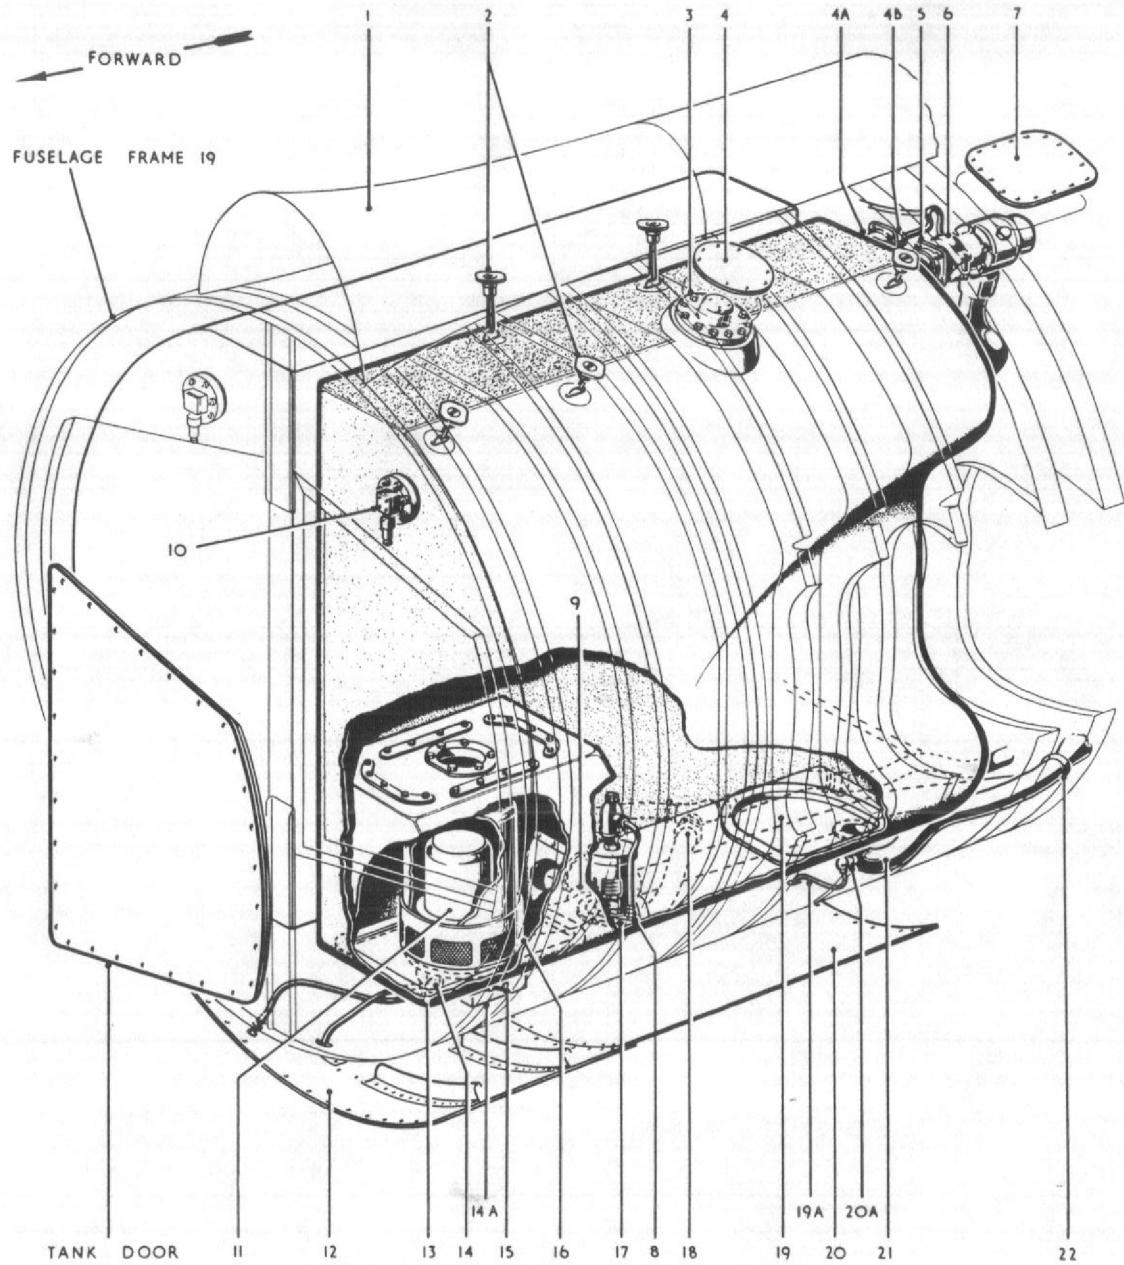

Fig. 10. Removal of front fuel tanks
### Removal of front tanks (fig. 10)
(2) Withdraw the terminal box sufficiently to disconnect the electrical cables, then remove the terminal box with sealing ring, making sure that the detached cables do not fall back into the tank.
**Removal of fuel contents gauge terminal box (fig. 10)**
- (1) Remove the nuts attaching the fuel contents gauge terminal box (10) to fuselage (frame 19).
**Removal of fuel level switch (fig. 10)**
- (1) Remove the terminal box cover from the fuel level switch (3), disconnect the cables and replace the cover.
- (2) Take off the twelve nuts and remove the fuel level switch and sealing ring.
**Removal of tank retaining cords (fig. 10)**
- (1) Remove the section of the fuselage spine (1) from frame 18 to frame 23.
- (2) Remove the screws from the tank retaining nuts (2).
- (3) Working from front to rear, insert one hand between the fuel tank and the inner skin of the fuselage and, while compressing the tank with this hand, use the other to cut the retaining cords with a suitable blade.
- (4) Pull out the severed cord knots and put back the screws.
**Disconnection of suction and pressure relief valve (fig. 10)**
- (1) Unscrew the nut on the clamp eyebolt (6), swing the clamp open and remove the clamp.
- (2) Remove the circlip and the two halves of the collar.
- (3) Unscrew the four bolts and remove the two halves of the locking plate (5) on the rear face of the main spar.
**Removal of vapour release valve (fig. 10)**
- (1) Disconnect pipe at (4B).
- (2) Unscrew vapour release valve retaining nut.
- (3) Withdraw vapour release valve (4A).
- (4) Unscrew four bolts and remove the two halves of the locking plate on the rear face of the main spar.
**Removal of refuelling valve (fig. 10)**
- (1) Remove the terminal box cover from the refuelling valve (8) and disconnect the electrical cables.
- (2) Disconnect the fuel pipe at (17) and (18) and remove the pipe.
- (3) Take off the twelve nuts and locking lug.
- (4) Remove the valve and sealing ring. (*While on the same location, unclip and spread apart, where necessary, electrical cables running along the fuselage under the tank.*)
**Removal of booster pump and inverted flight valve (fig. 10)**
- (1) Disconnect the electrical lead (15) on the booster pump and inverted flight valve installation.
- (2) Disconnect the water sediment drain at (13) and the fuel gland drain at (14).
- (3) Disconnect the fuel outlet pipe at (16) on the pump and the non-return valve (9) and remove the pipe.